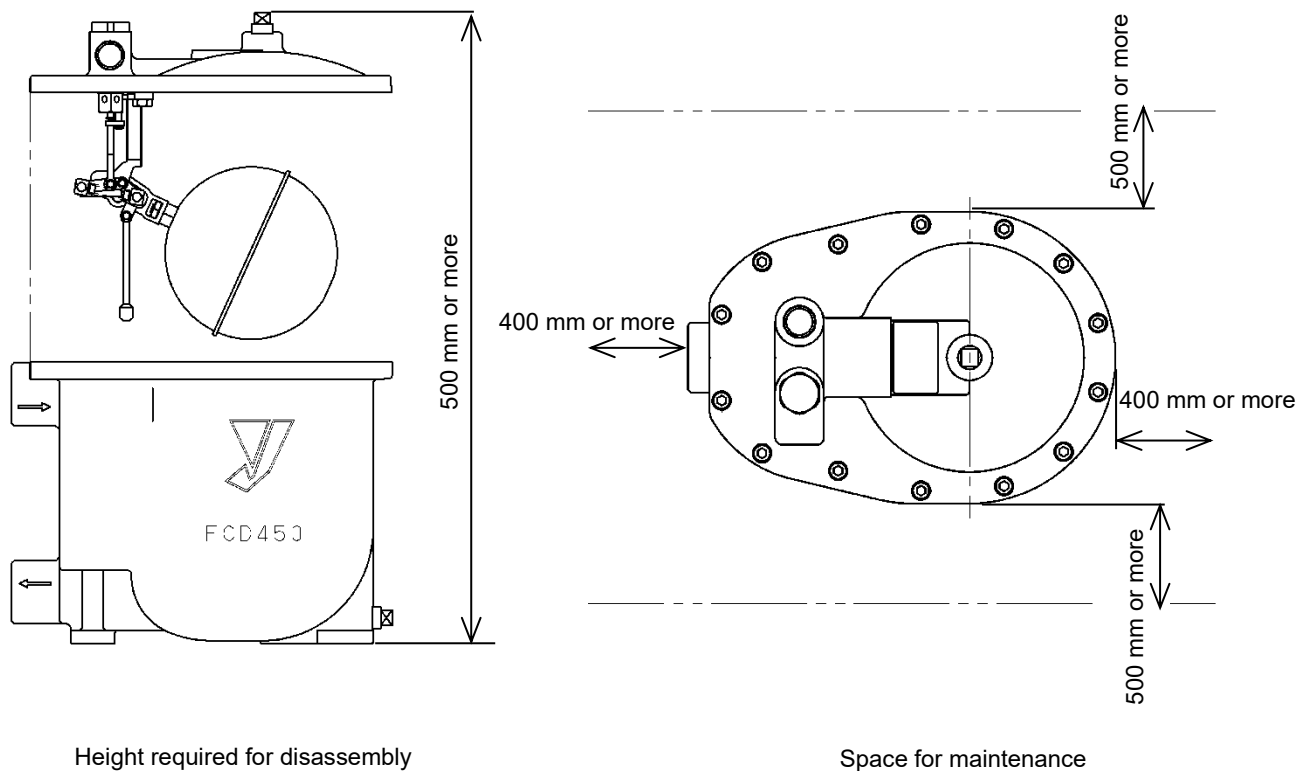

Fig. 9
(11) Provide the space for maintenance required for disassembling or correcting the product. (See Fig. 9.)